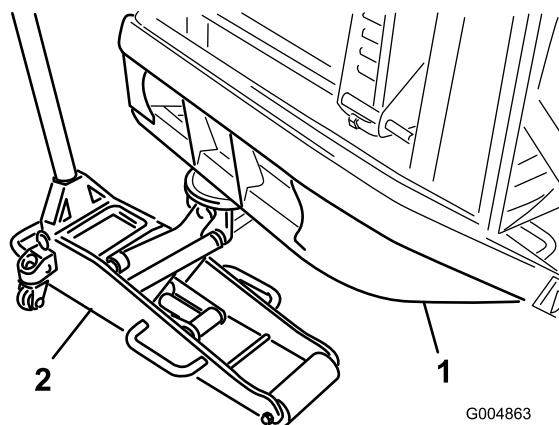

Figure 14
2. Place a jack stand under each wheel motor and a floor jack under the rear bumper (Figure 14) or suspend from a over head hoist.